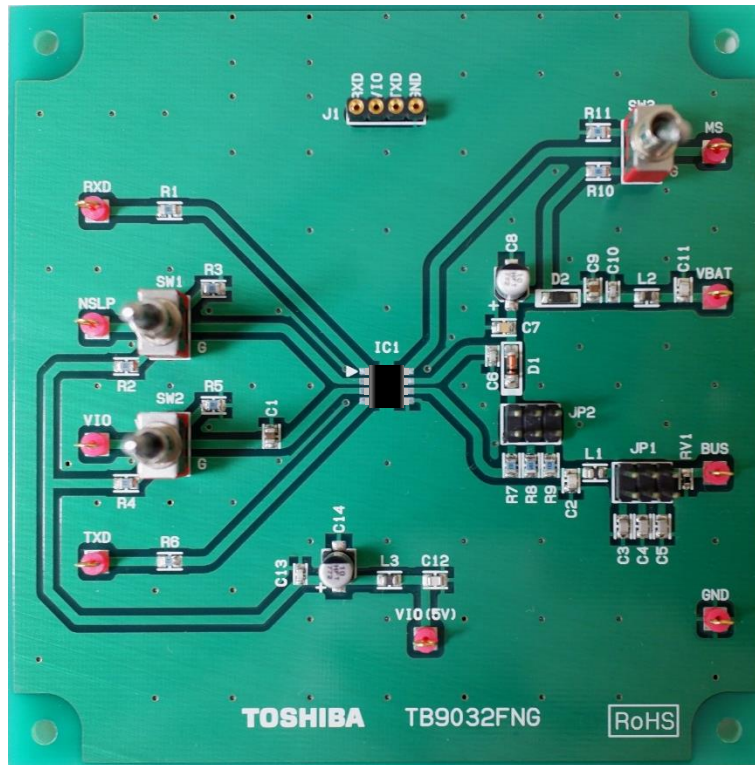

Figure 8.1 Evaluation board
•Evaluation boards for checking the functions of the IC, shown in Figure 8.1, are available.